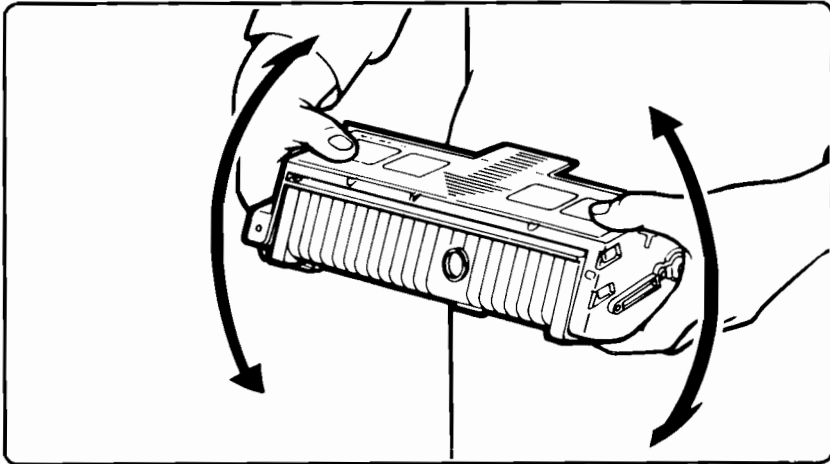

Figure 2-2. Distributing Toner in the EP-L Cartridge
- Before installing a cartridge, distribute the toner evenly by holding the cartridge horizontally and slowly rocking it from end to end about five times (see Figure 2-2). This action also helps to extend the life of the cartridge when the toner begins to run low.